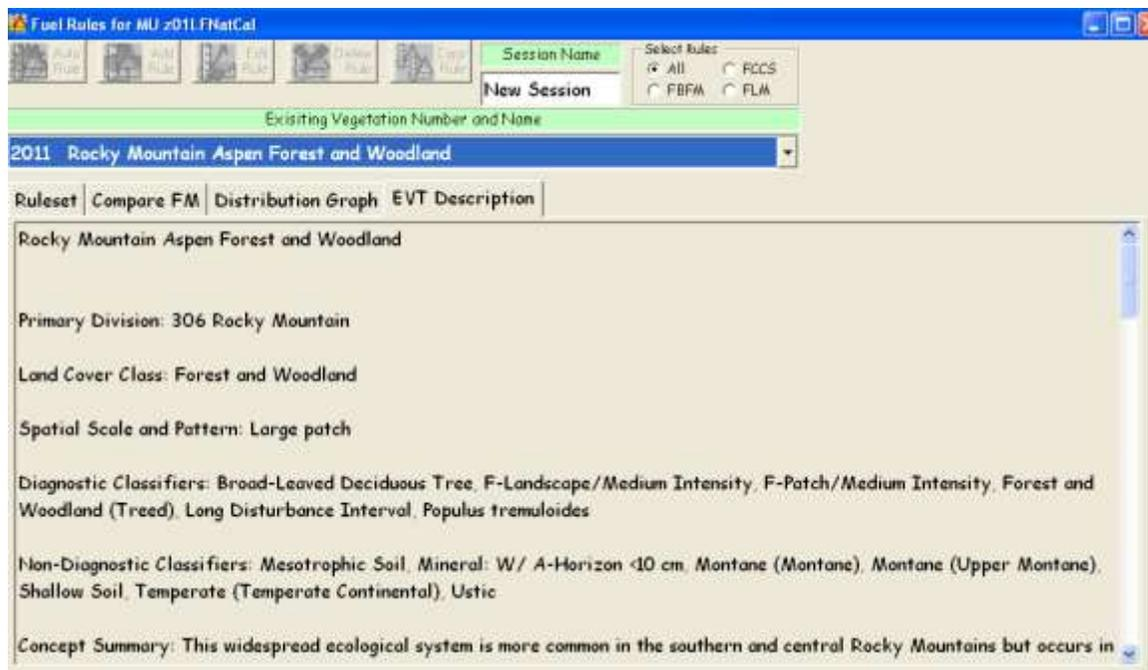

Figure 7-35. **EVT Description** page in **Fuel Rules** screen.
- Use the **Existing Vegetation Number and Name** drop-down menu to view a description of the EVT you specified (fig. 7-35).